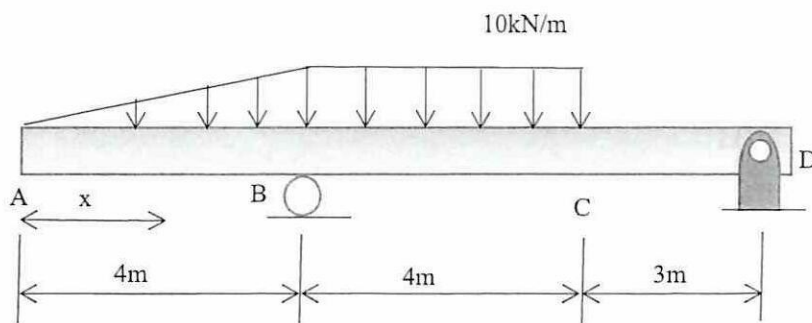

Figure Q2
- (b) **Figure Q2** shows a simply supported beam ABCD exerted with distributed loading. Suppose the beam in equilibrium conditions